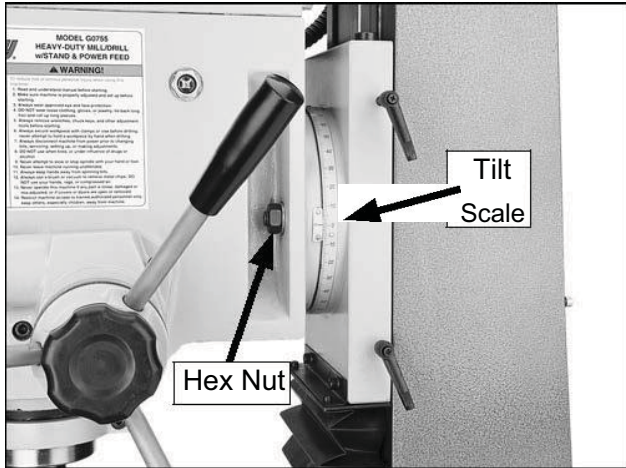

Figure 14. Tilt locking hex nut (one on each side of head).
1. Use a 22mm wrench to loosen the three locking hex nuts (see Figures 14–15), then tilt headstock to desired angle on tilt scale.